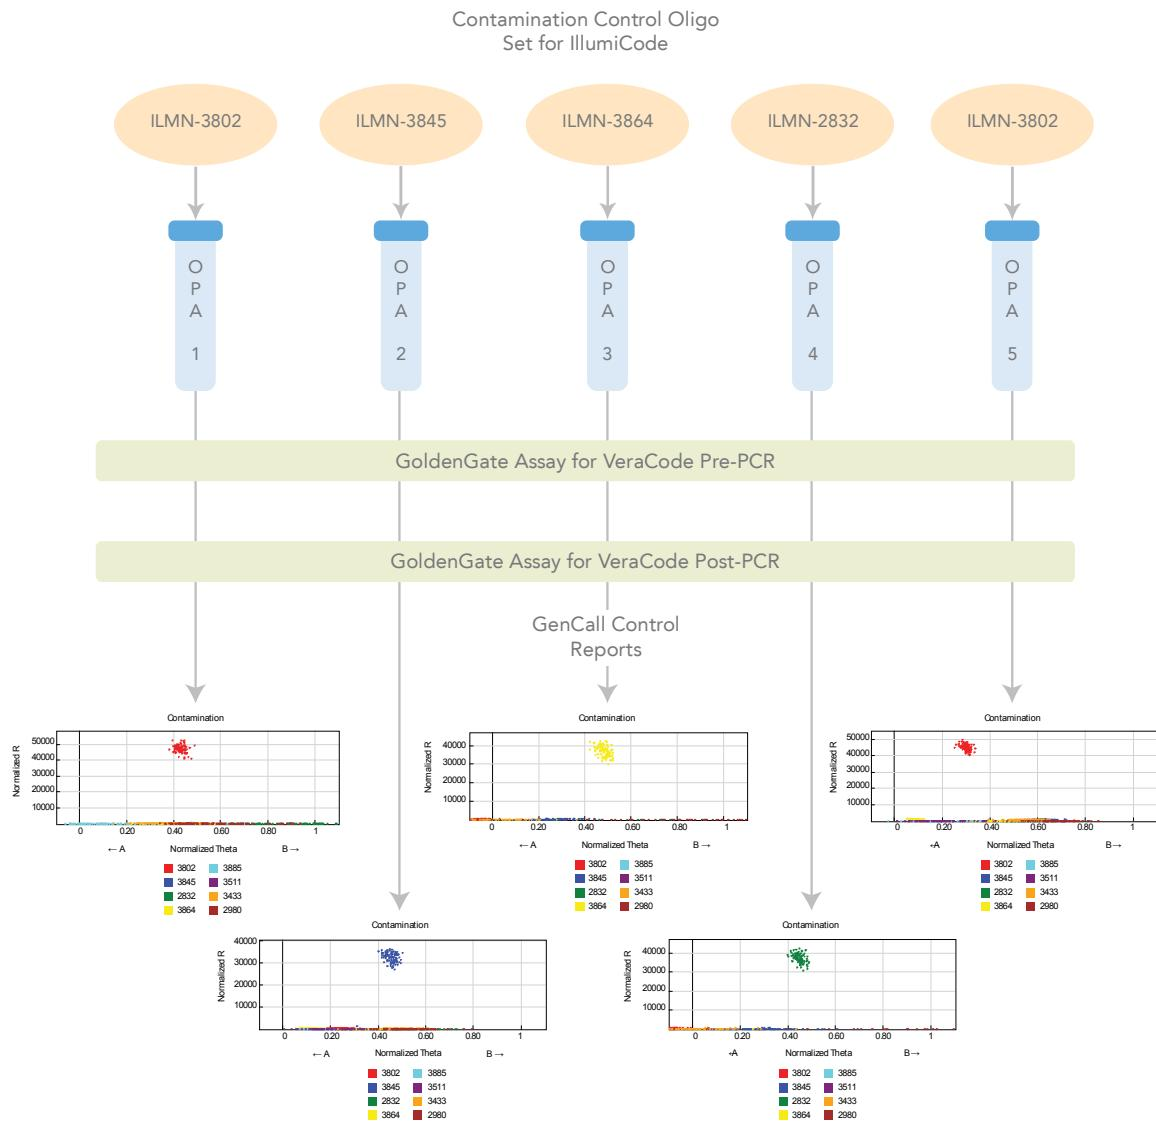

Figure 122 Contamination-Free Environment
Figures 122 through 124 provide graphic representations of these controls under three BeadStation process conditions:
- ▶ Figure 122 represents a contamination-free environment